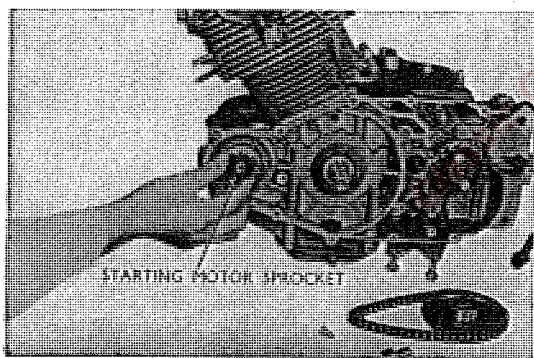

Fig. 3.50 Starting motor sprocket
3. The starting motor sprocket is coupled only by serration and can be extracted quite easily. (Refer to Fig. 3.50)